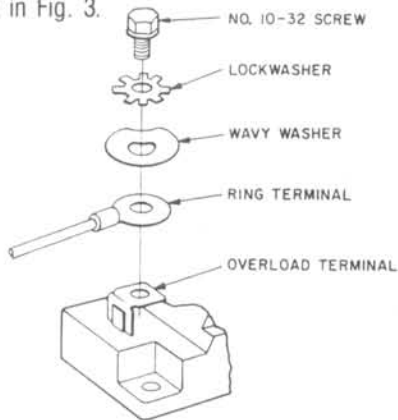

Fig. 3 — Torque Terminal Screws to 20 In. Lbs Maximum
*Models supplied with (3) overloads. L2 is also to be connected to the overloads.
Use (1) screw, (1) wavy washer, and (1) external-tooth lockwasher per connection. Assemble the parts in the order as shown in Fig. 3.